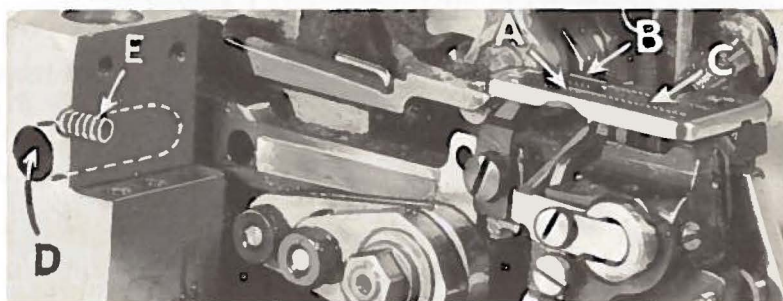

Fig. 10
Now assemble main (back) feed dog (B, Fig. 10) and chaining feed dog (C). Set all feed dogs (A, B, C, Fig. 10) so the top surfaces of the teeth all lie in the same plane. This can be checked by sighting across the teeth with a straight edge. Now assemble throat plate. Feed dogs should now be leveled with throat plate surface by rotating feed tilting adjusting pin (D). This pin raises or lowers the back end of feed bar.